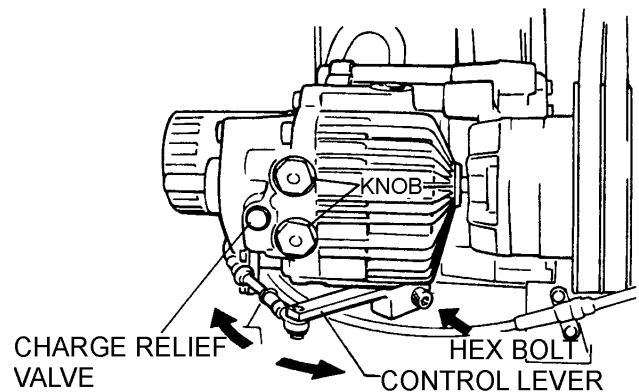

Figure 41. Unscrewing Left Lock Nut
1. Loosen the hex socket head bolt used for mounting the control lever on the underside of the transmission (Figure 41).